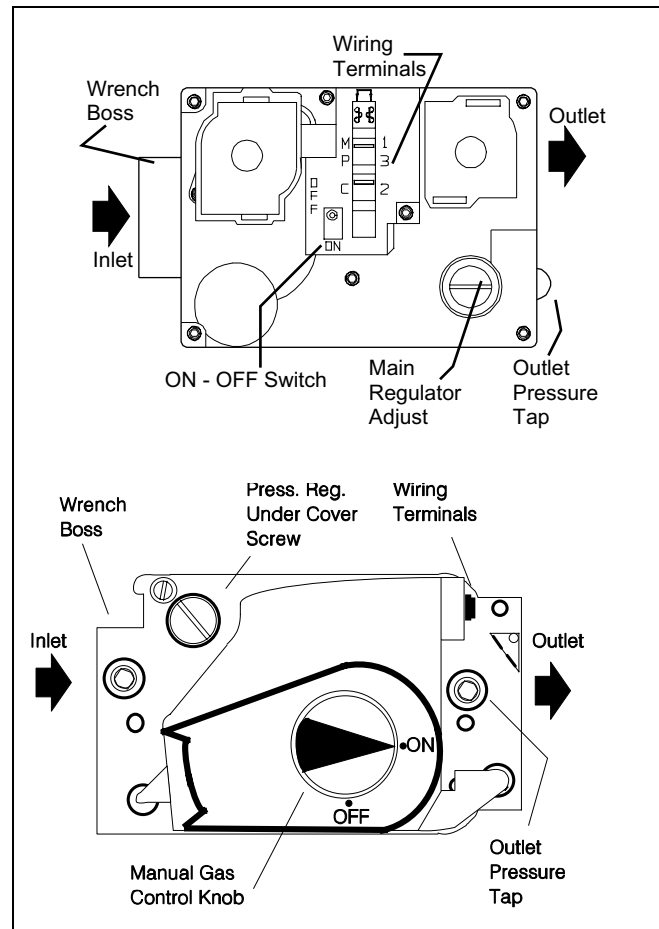

FIGURE 14 : GAS VALVES -
2. (Refer to Figure 14 on page 16) for location of pressure regulator adjustment cap and screw on main gas valve.